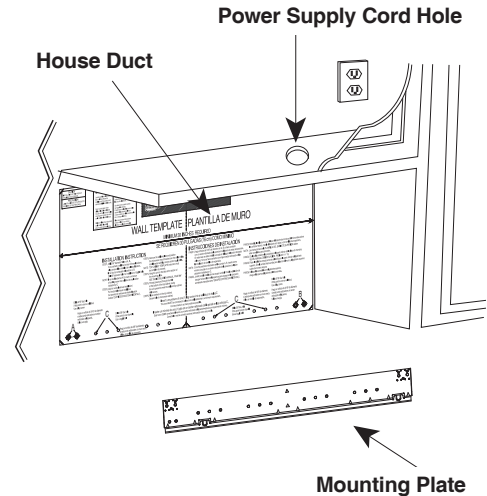

Figure 18
- Draw a vertical line on the wall at the center of the 30" wide space. See Figure 18.